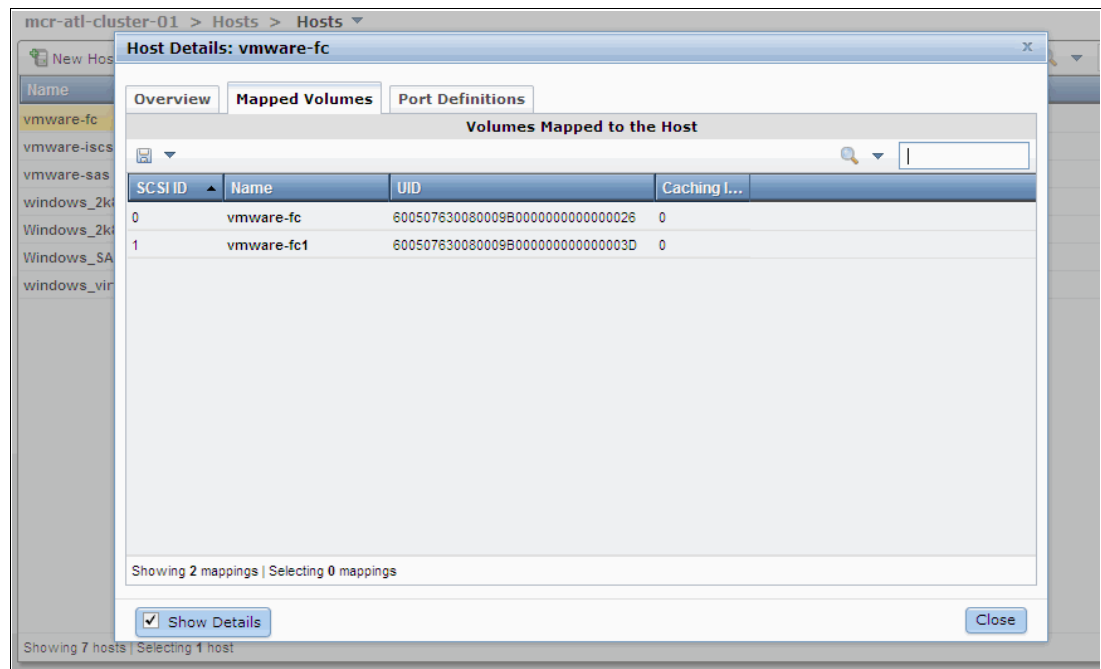

Figure 5-68 Mapped volumes to ESX FC host
2. Browse to the **Mapped Volumes** tab, as shown in Figure 5-68.